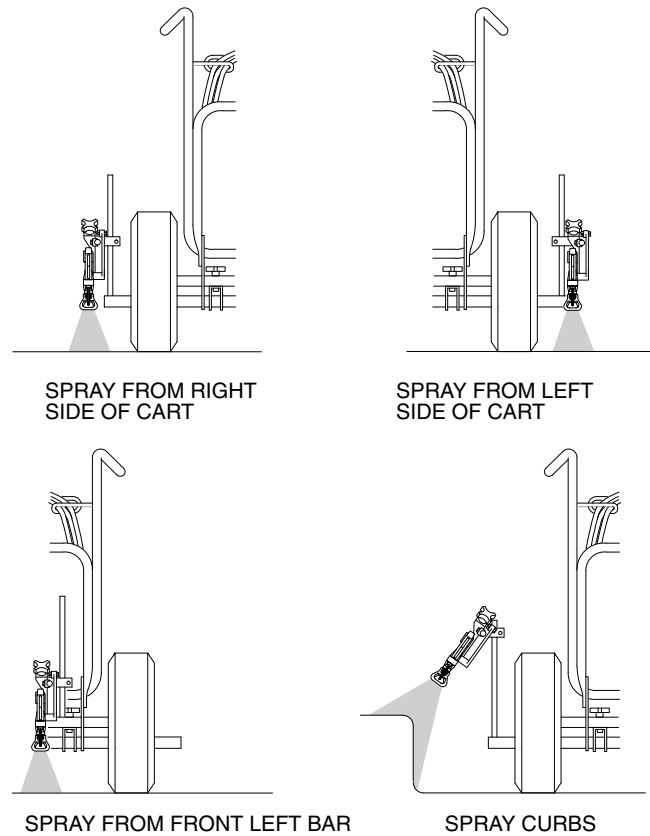

Fig. 20
- Keep the RAC IV Tip Guard parallel to the ground and the tip guard "wings" (A) facing the front and back of the unit as shown in Fig. 20.